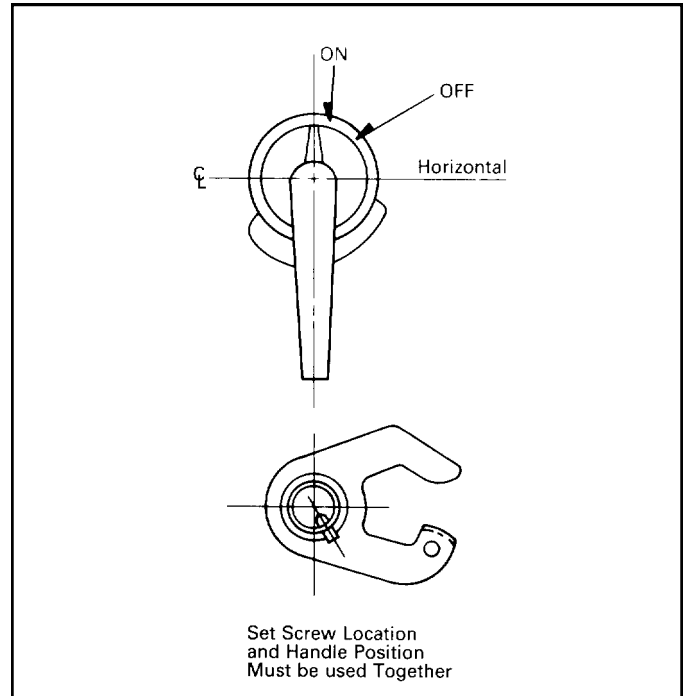
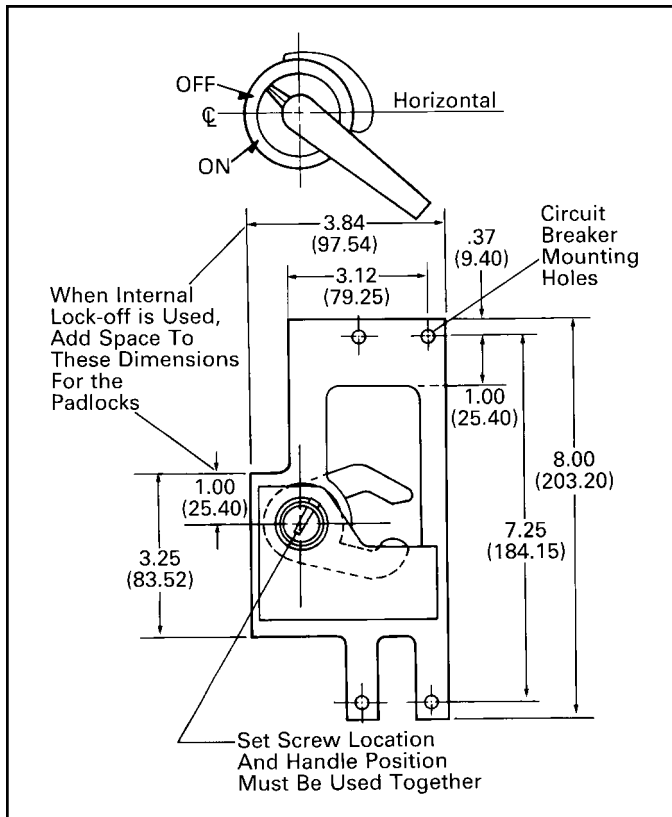
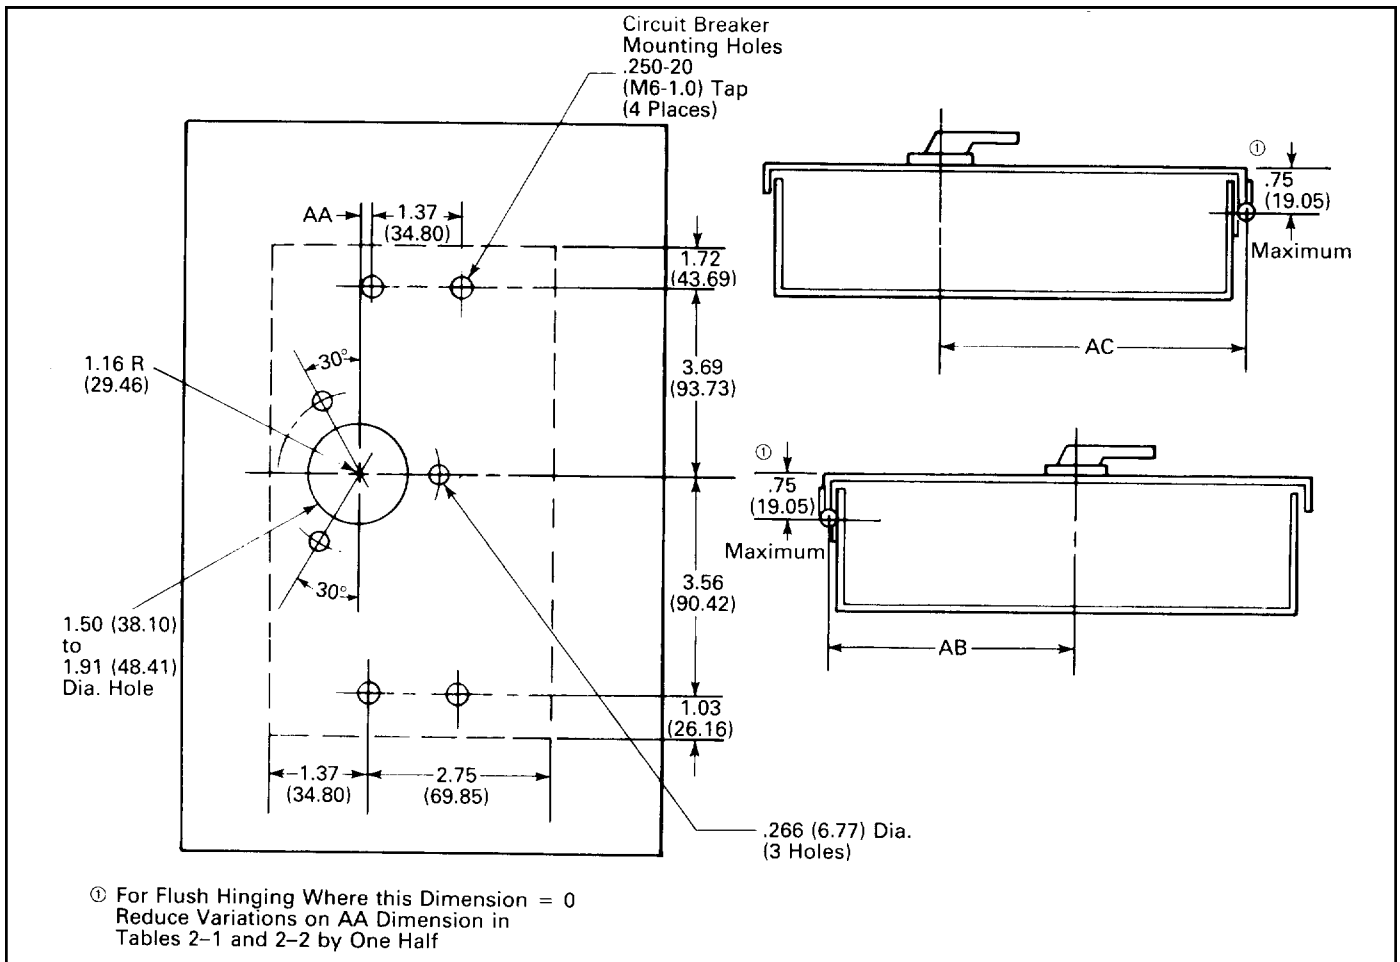
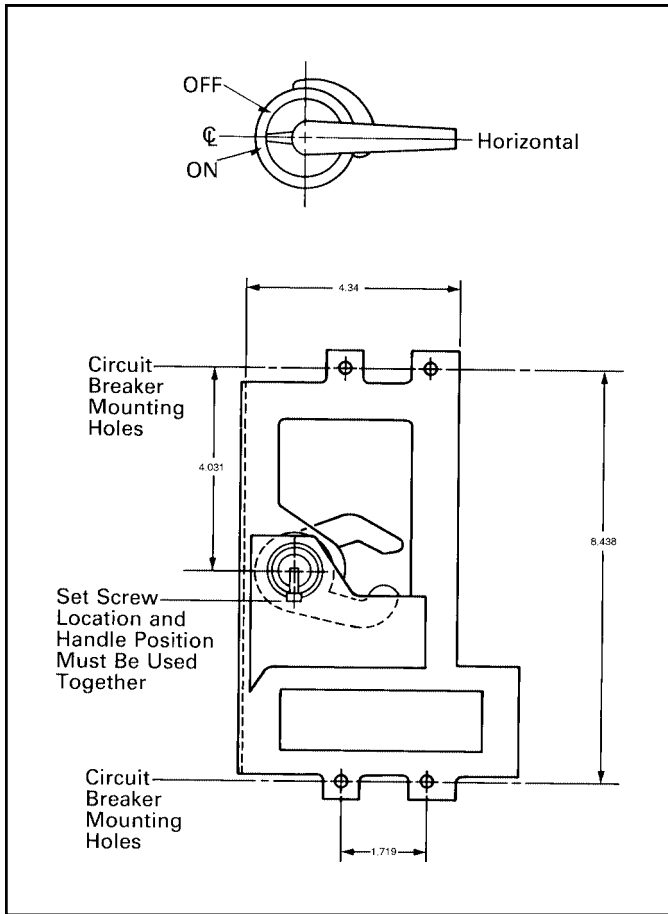

Fig. 2-3 Vertical Handle Position, J-Frame Series C Circuit Breaker
Fig. 2-2 Diagonal Handle Position, J-Frame Series C Circuit Breaker
Fig. 2-4 Enclosure Drilling Plan, J-Frame Series C Circuit Breaker
Fig. 2-5 Horizontal Handle Position, K-Frame Series C Circuit Breaker
Note: Determine position for circuit breaker in enclosure. (For J-frame Series C circuit breakers, refer to the drilling plans and dimensions provided in Figs. 2-2, 2-3, 2-4, and Tables 2-1 and 2-2. For K-frame Series C circuit breakers, refer to Figs. 2-5, 2-6, 2-7, and Tables 2-3 and 2-4.)
2-6. Drill shaft and handle attachment holes in enclosure cover. (Refer to Fig. 2-4 or 2-7.)
- ① Refer to Fig. 2-4 to apply the dimensions in this table.
- ② Dimensions are shown in inches, with millimeters in parenthesis.
- ③ Where cabinet hinging produces a difficult handle/shaft engagement angle, dimension variations are given to permit easier engagement when closing the cabinet door. Avoid maximum variations where possible.
Table 2-2. Enclosure/Handle Assembly Location Dimensions J-Frame Series C Circuit Breakers For Use With Vertical Handle Position Only (Fig. 2-3)^{①②③}
① Refer to Fig. 2-4 to apply the dimensions in this table.
② Dimensions are shown in inches, with millimeters in parenthesis.
③ Where cabinet hinging produces a difficult handle/shaft engagement angle, dimension variations are given to permit easier engagement when closing the cabinet door. Avoid maximum variations where possible.
Table 2-3. Enclosure/Handle Assembly Location Dimensions For K-Frame Series C Circuit Breakers For Use With Horizontal Handle Position Only (Fig. 2-5)^{①②③}
2-7. Screw shaft into handle operating assembly. Set AD as shown in Fig. 2-9 and lock shaft with special set screw provided and a commercially available thread locking adhesive. (Refer to Figs. 2-2, 2-3, 2-5, or 2-6 to determine correct shaft position.)
2-8. Secure handle assembly to cover using three screws (Fig 2-8) provided in kit. (Refer to Figs. 2-2, 2-3, 2-5, or 2-6 for correct position of handle.) For reference, overall handle dimensions for both frame sizes are shown in Fig. 2-11.